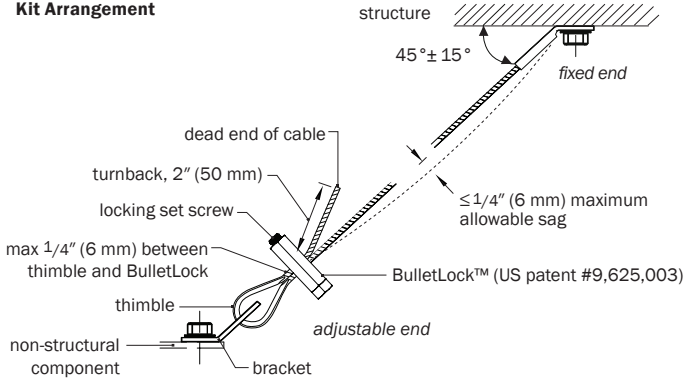

Fig.1
- A) For transverse or longitudinal-only restraints (shown as a straight line on floor plan markups): This point can be estimated easily by measuring the vertical distance from the structure to the restraint attachment point on the component ①, then measuring that distance along the structure either inline with the component ② (for longitudinal restraints) or perpendicular to the component ③ (for transverse restraints).
- B) For compound 45° angle restraints (shown as a "V" on floor plan markups): This point can be estimated easily by measuring the vertical distance from the structure to the restraint attachment point on the component ①, then measuring that distance along the structure inline with the component ②, then the same distance perpendicular to the component ③.
3. Note that standard BB and BBR restraint kit cable lengths are 10' (3 m). If longer cables are required, contact Vibro-Acoustics for custom length pricing or for bulk wire rope with field-assembled ends using a BulletLock™ at each end (Fig. 1).